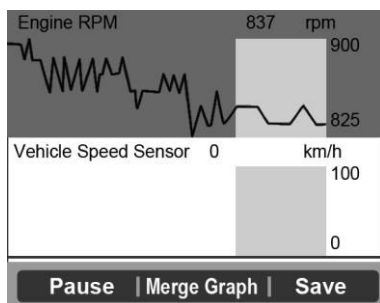

Figure 6.13
- If the **“Merge Graph”** on the bottom appears when a PID is selected to view, merged graph information is available. (Figure 6.13)